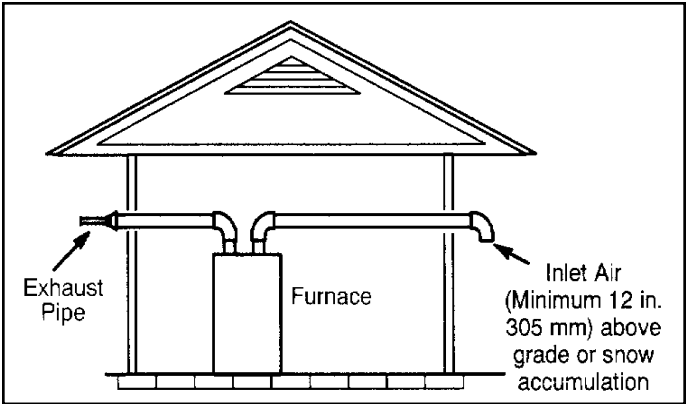
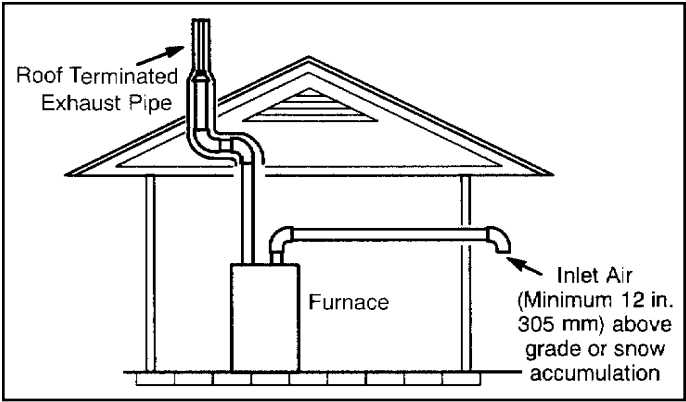

Figure 37. Exiting Exhaust and Intake Vent (no common pressure zone)
Figure 38. Exiting Exhaust and Intake Vent (no common pressure zone)
- 1. Intake and exhaust terminations are not required to be in the same pressure zone. You may exit the intake on one side of the structure and the exhaust on another side (Figure 37). You may exit the exhaust out the roof and the intake out the side of the structure (Figure 38).